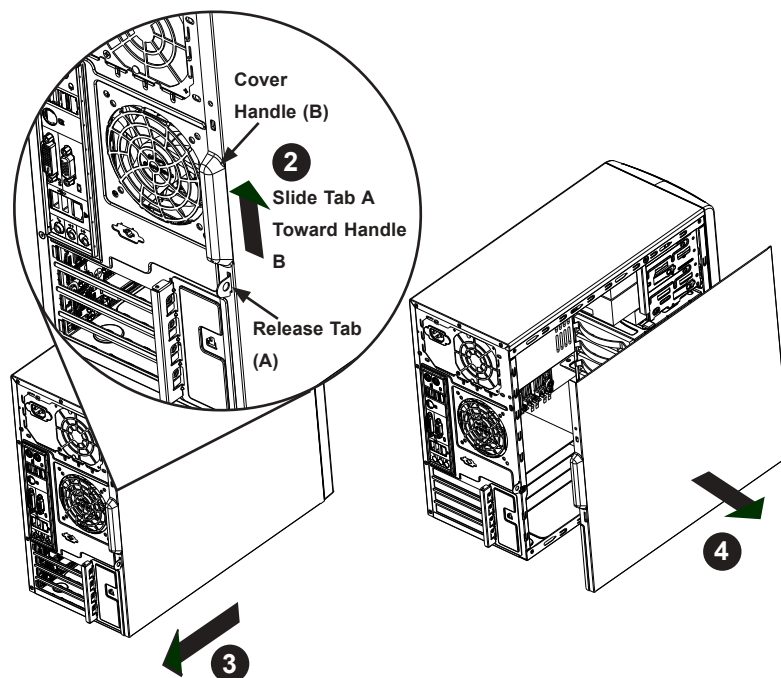

Figure 3-1. Accessing the System
2. Slide the release tab (A) towards the cover handle (B).
4. Remove the cover from the chassis. See Figure 3-1.